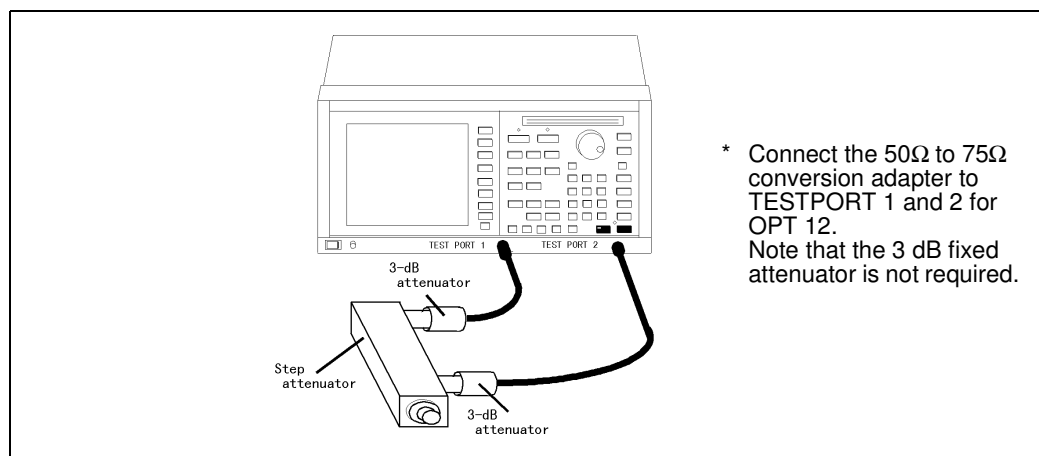

Figure 10-31 Connections for TEST PORT 1 Measurement for Dynamic Level Accuracy
- (1) Connect two 3-dB attenuators and step attenuator using two RF cables between TEST PORT 1 and TEST PORT 2 shown in Figure 10-31.